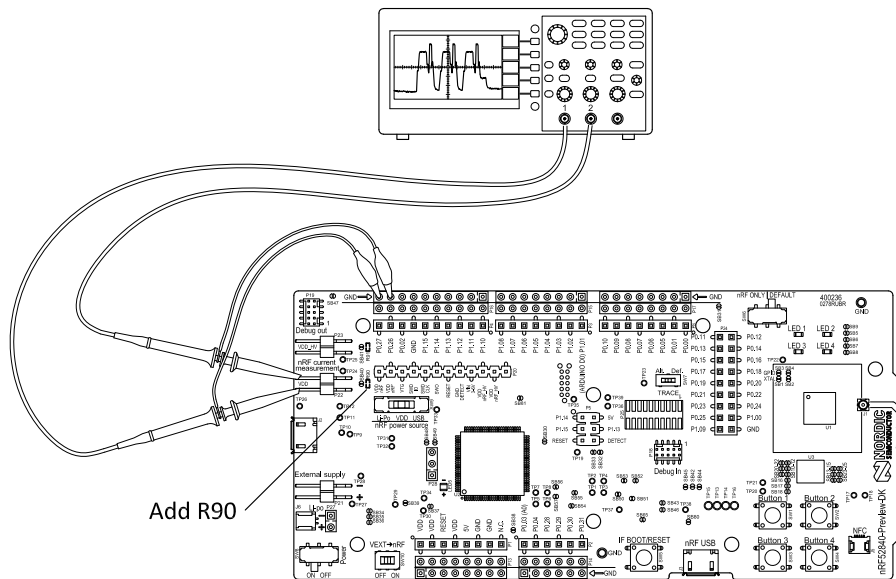

Figure 27: Current measurement with oscilloscope
2. Connect an oscilloscope in differential mode or similar with two probes on the pins of the **P22** connector as shown in Figure 27: Current measurement with oscilloscope on page 32.